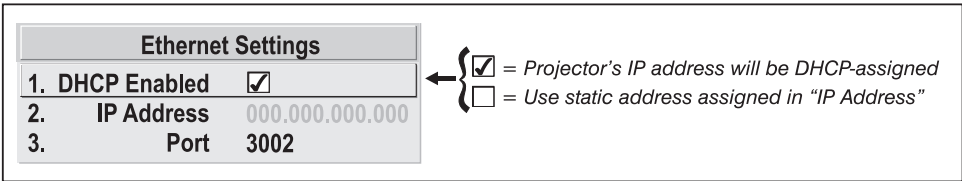

Figure 2.16. Setting the Projector's IP Address
SETTING THE PROJECTOR'S IP ADDRESS: Upon connection to most Ethernet networks, each projector's factory default IP address of 0.0.0.0 triggers the network's DHCP (Dynamic Host Configuration Protocol) server function to automatically assign an IP address that is valid and unique for use on that network. Depending on the network, this DHCP-assigned IP address usually remains stable for a single session, but may change with subsequent power-ups and logins. On some networks, the address will remain stable from session to session. In all cases, the projector's IP address and port appear in the *Status* menu as well as the *Ethernet Settings* submenu. See Figure 2.16
- Communicating to All Ports** ➤ To relay all messages to all ports—RS232, RS422, and Ethernet—set the “Network Routing” option in the *Communications* menu for each projector to “All Joined”. This configuration is useful if you are using a non-RS232 controller with the RS232 linking available between these projectors. For example, you may want to use both an RS422-compatible controller and an Ethernet-connected PC for working with a network of projectors linked via their RS232 in/out ports (Figure 2.16).